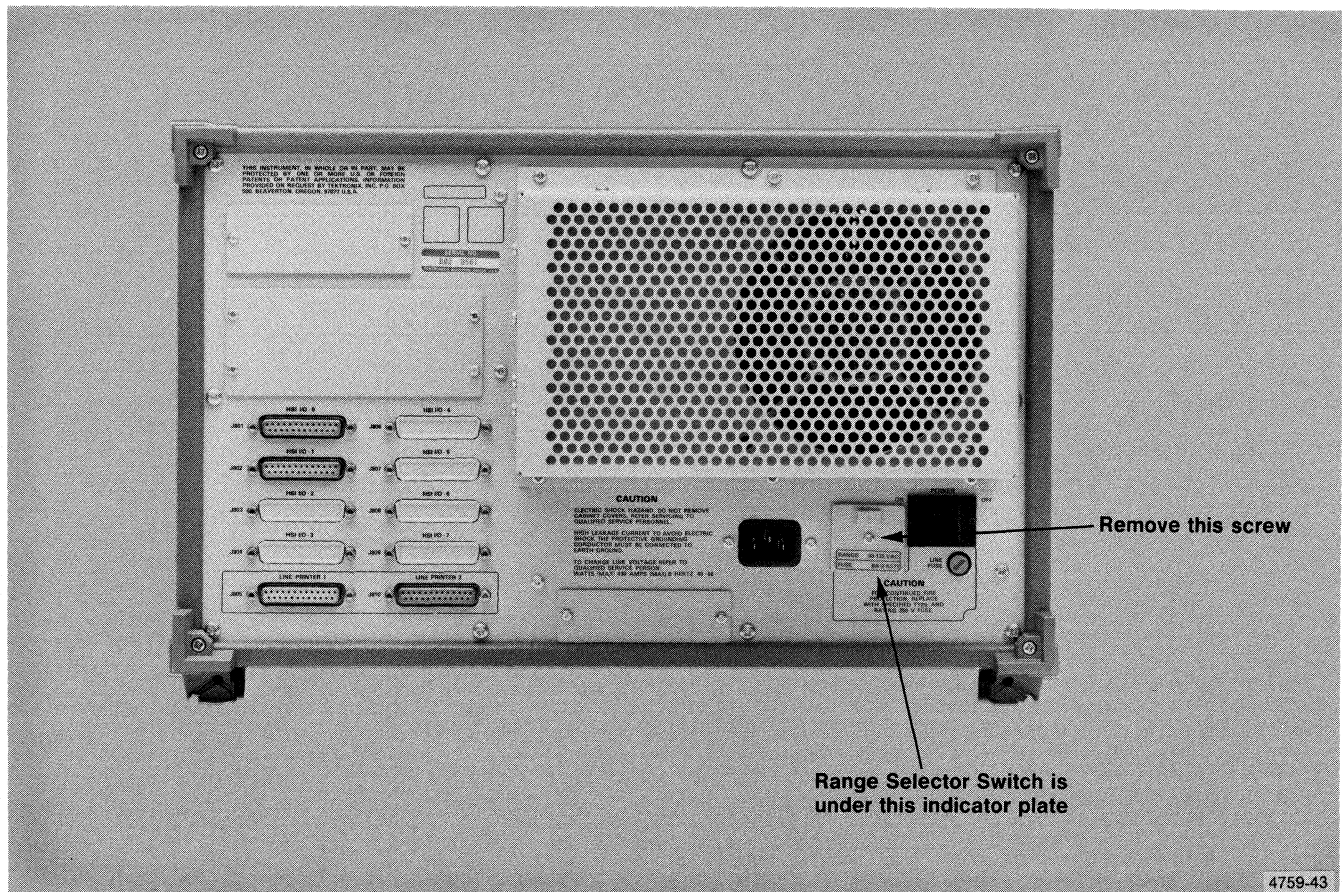

Fig. 18-5. Selecting the primary power voltage.
1. Refer to Fig. 18-5. Notice the small plate at the lower part of the rear panel. Using a Phillips screw driver, remove the screws holding the plate.